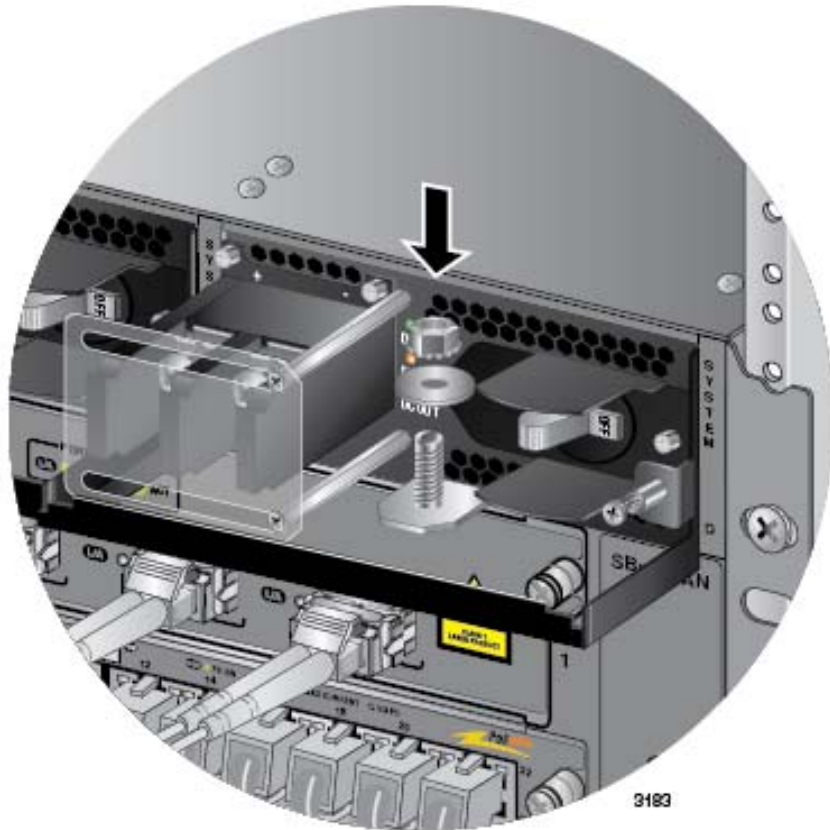

Figure 166. Reinstalling the Nut and Washer on the Grounding Post
10. Reinstall the nut and washer on the grounding post. Refer to Figure 166 on page 268.